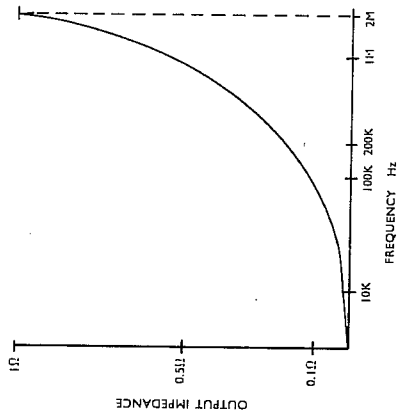

Fig. 2. Output Impedance
- For an alternating load superimposed on a steady load, the output impedance of the supply increases with frequency due to the fall off in gain of the amplifier until it is determined only by the output capacitor across the output terminals. A typical output impedance against frequency curve is shown in fig. 2.
See next page for fig. 2